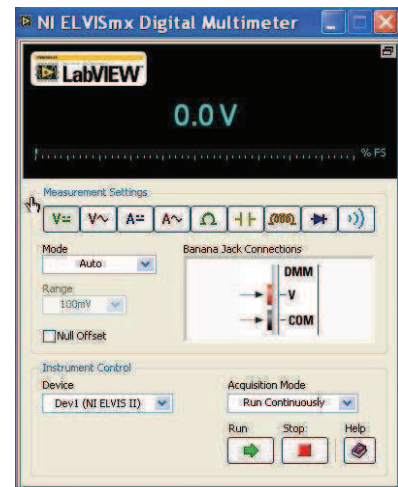

Figure 4
**Note:** If the digital multimeter virtual instrument has launched successfully, the instrument's window will be visible (see Figure 4).
The digital multimeter's mode of operation is selected using "soft" controls on the virtual instrument instead of physical buttons on the NI ELVIS II. That is, you tell the meter what to measure by pressing the appropriate buttons under the heading *Measurement and Settings* near the mouse-pointer in Figure 4.